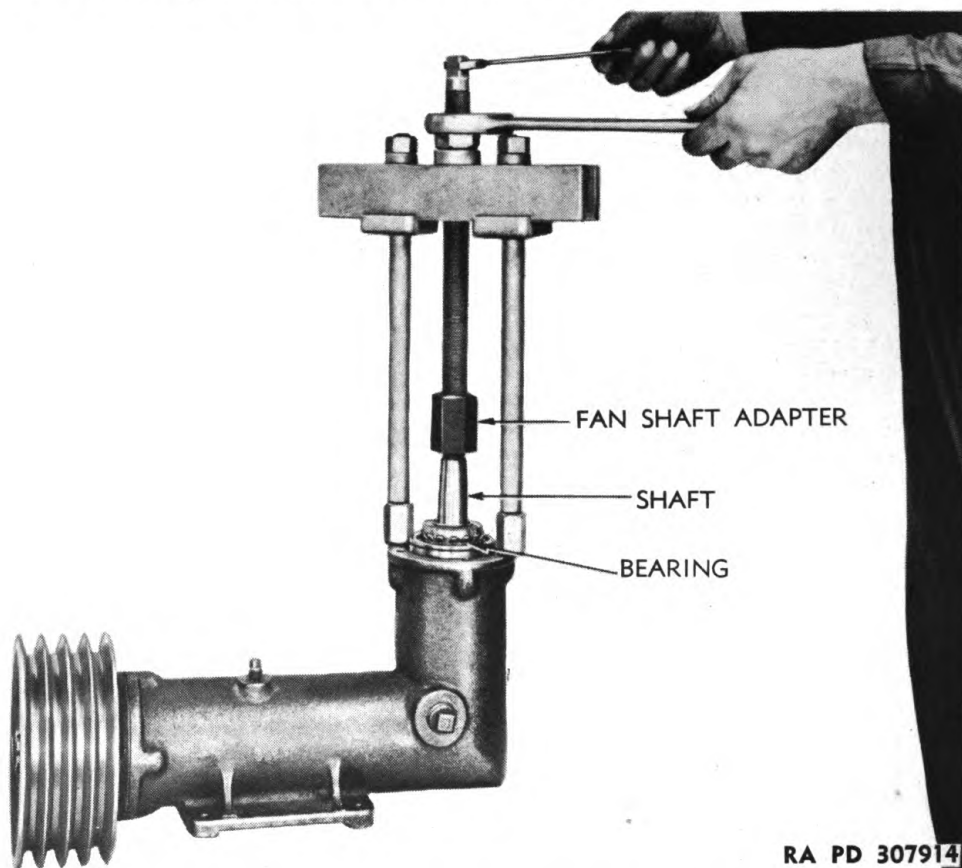
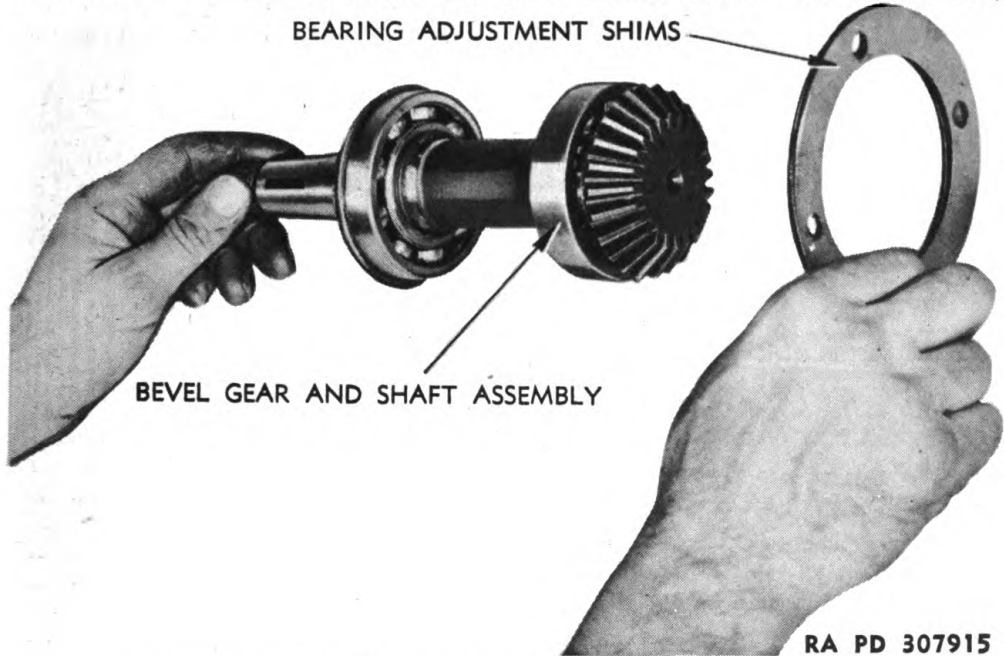

Figure 107 — Pulling Fan Drive Shaft and Bearings, Using Puller 41-P-2905-60 and Adapter 41-A-18-165
Figure 108 — Removing Gear Adjusting Shims
(2) **REMOVE FAN SHAFT AND BEARINGS.** Remove drain plug and drain oil from housing. Install plug after housing is drained. Remove four cap screws and lock washers and tap bearing retainer and shims from pulley end of housing. Screw fan shaft adapter (41-A-18-165) onto end of shaft, then, using puller (41-P-2905-60) with puller legs and end caps in similar manner as shown in figure 107, pull shaft and bearings from housing. Remove four cap screws and lock washers and tap bearing retainer from fan end of housing.
(2) **REMOVE GEAR SHAFT AND BEARINGS.** Remove four cap screws and lock washers and remove bearing retainer. Using adapter (41-A-18-165) and puller (41-P-2905-60) as shown in figure 107. Pull gear shaft and bearings from housing. Remove shims from outer bearing (fig. 108).